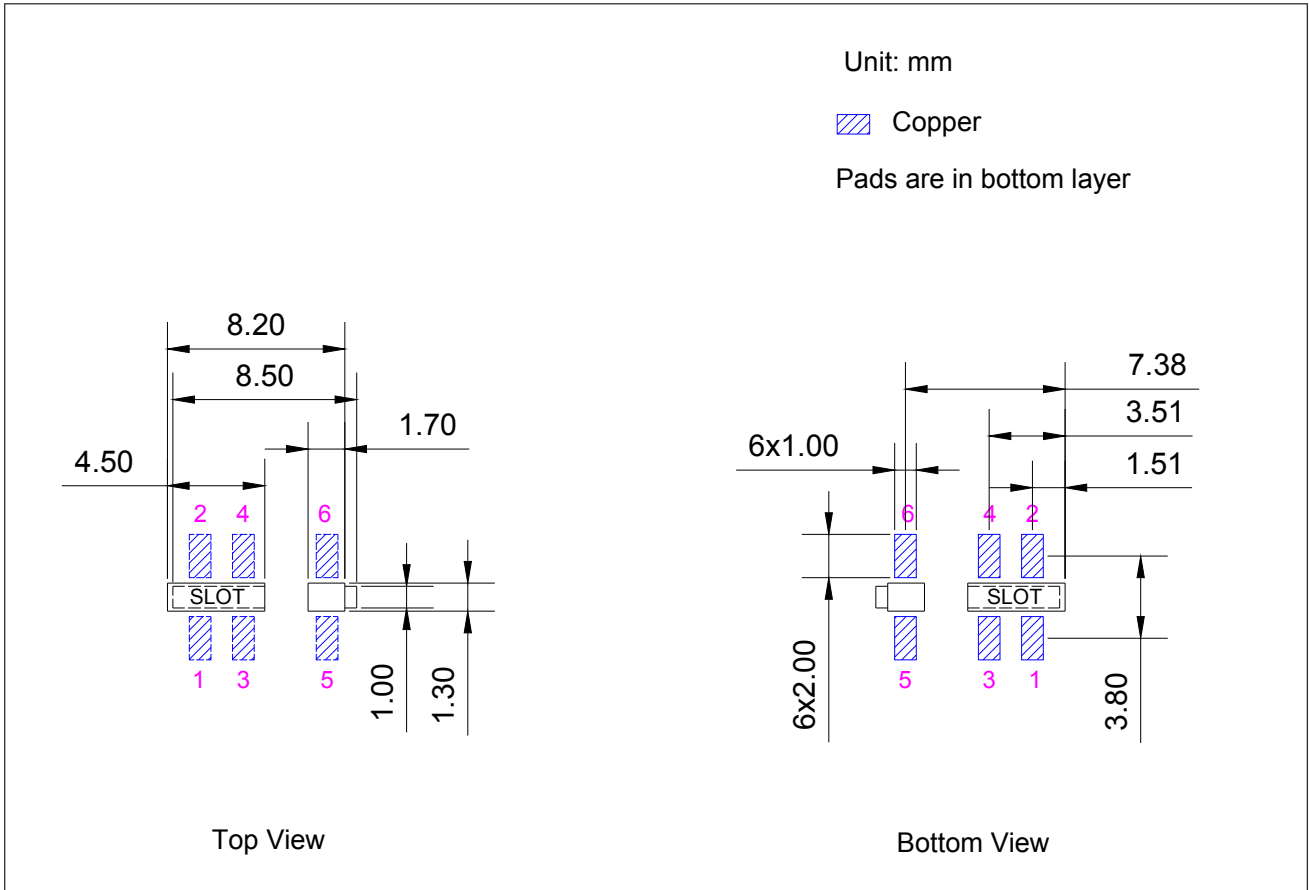

Figure 7: Recommended PCB Land Pattern
- Figure for the recommended PCB land pattern with all the dimensions needed for PCB design. See Figure 7 *Recommended PCB Land Pattern*.